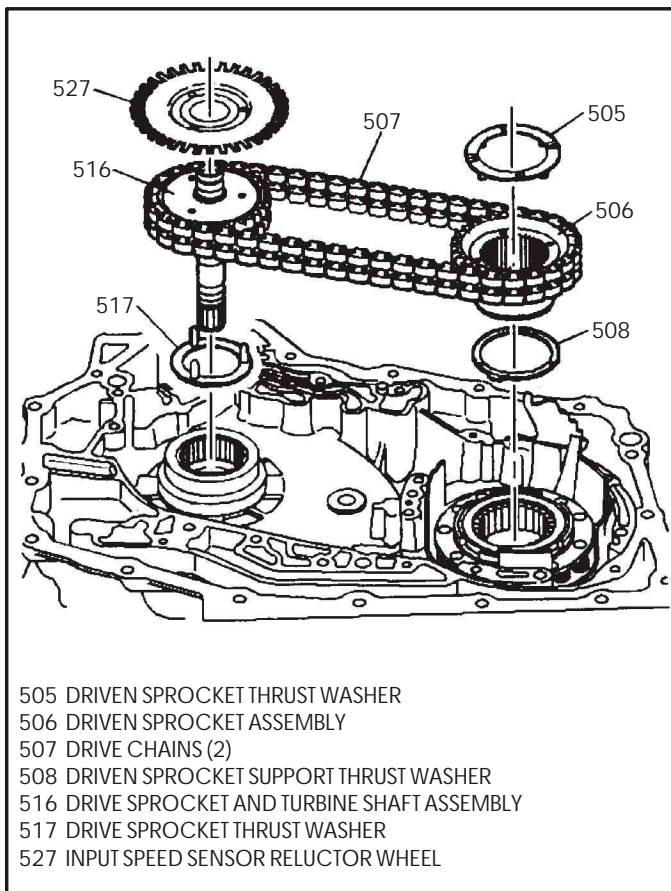

Figure 171
65. Install the thrust washer (508) onto the driven sprocket support and retain with small amount of petrolatum (See Figure 171).
66. Install the pre-assembled drive chains and sprocket assemblies into the case by hand, as shown in Figure 171. A slight rocking motion may be necessary to fully seat the sprockets into place.
67. Ensure that thrust washer (505) is still in place on the driven sprocket (See Figure 171).
68. Install the input speed sensor reluctor wheel on the drive sprocket, ensuring the 3 drive pins and the reluctor wheel are fully seated. Refer to Figure 171.
70. Pull the drive chain toward the case at location indicated in Figure 171.
71. Measure the distance between the case and the edge of the drive chain at the location indicated in Figure 171.